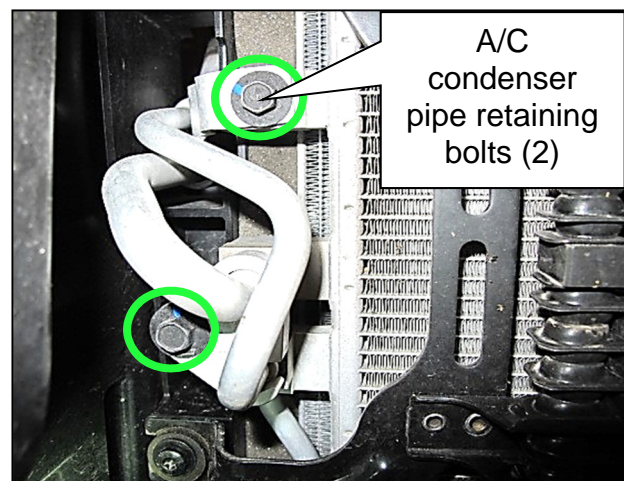

Figure 21
- g. Install and torque the two (2) 10 mm A/C condenser pipe retaining bolts (Figure 21).